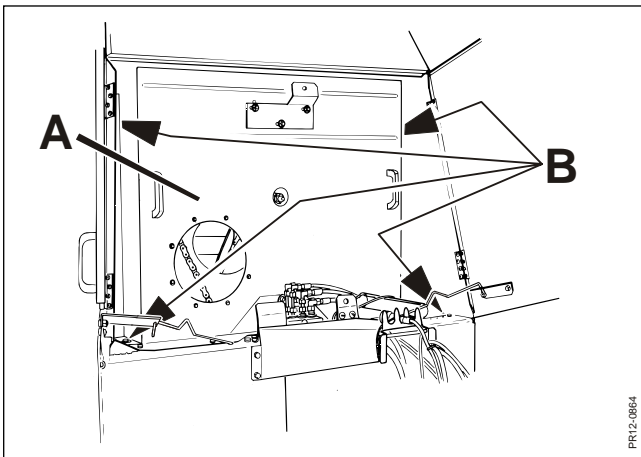

Fig. 9.3
- Fig. 9.3** To get access to the chains, open the front doors and dismount the chain guard (A) by removing the 4 bolts (B).